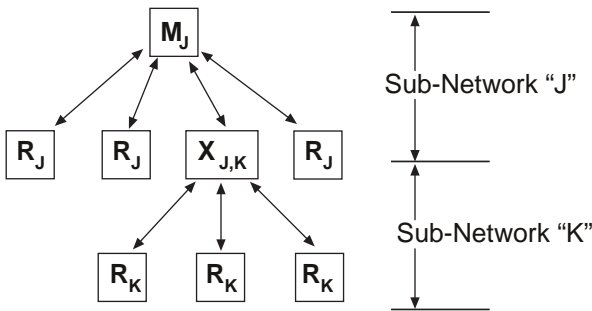

Figure 12. Simple Extended SAF Network
The following example depicts a two-level network utilizing a single Master (M) and an Extension (X) radio. See Figure 12.